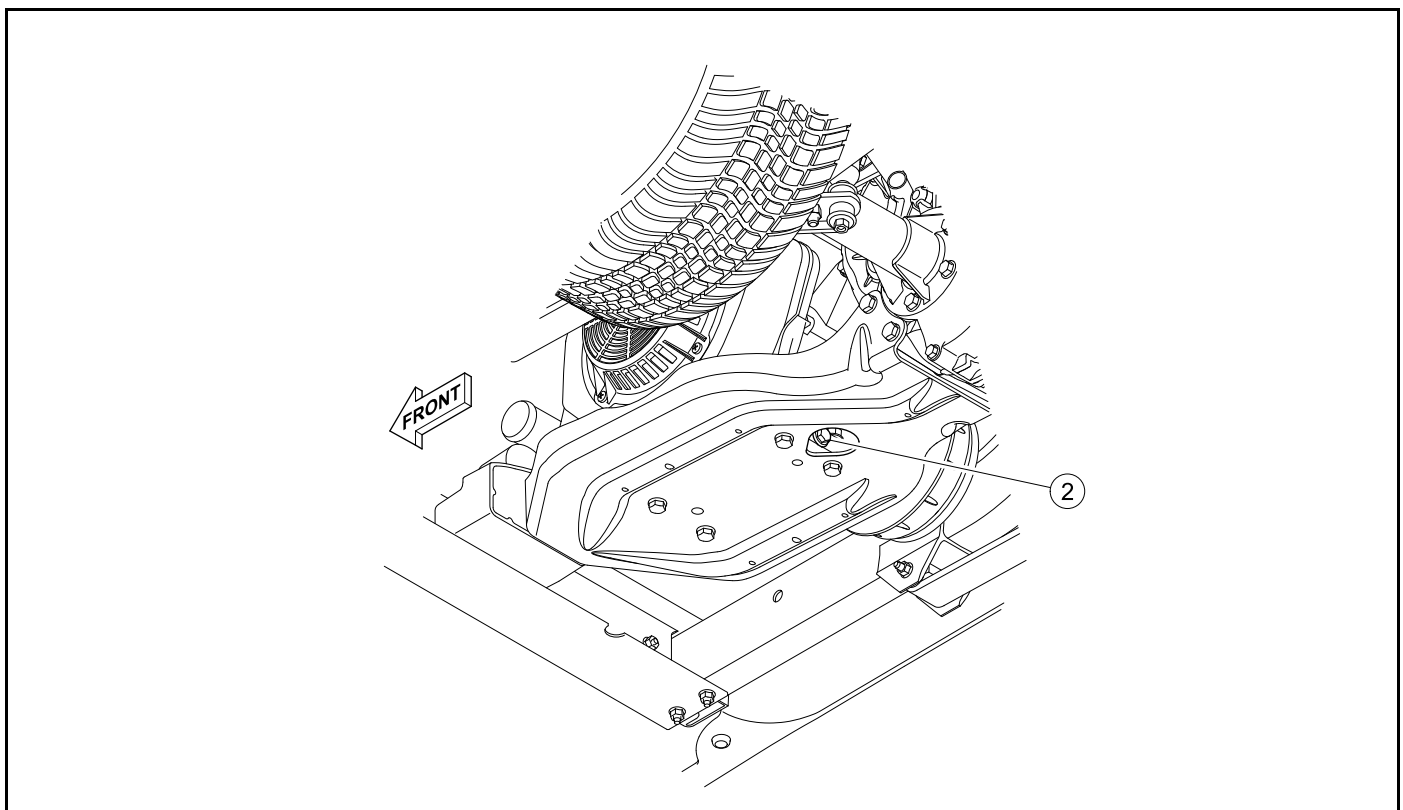

Figure 10-8 Oil Drain Plug
2. Clean the area around the oil drain plug (2) (Figure 10-8, Page 10-13).